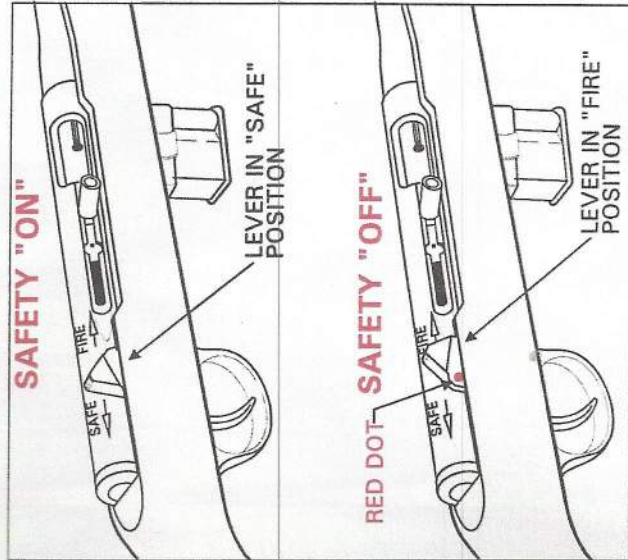

Figure 1. Safety Operation.
1. While ensuring the rifle is pointing in a safe direction with the bolt "FULLY CLOSED", place the safety in the "SAFE" position, figure 1.
3. Move the safety to the "FIRE" position as shown in figure 1. The rifle is now ready to fire.
1. With the rifle pointed in a safe direction and your finger off of the trigger, place the safety in the "SAFE" position, figure 1.